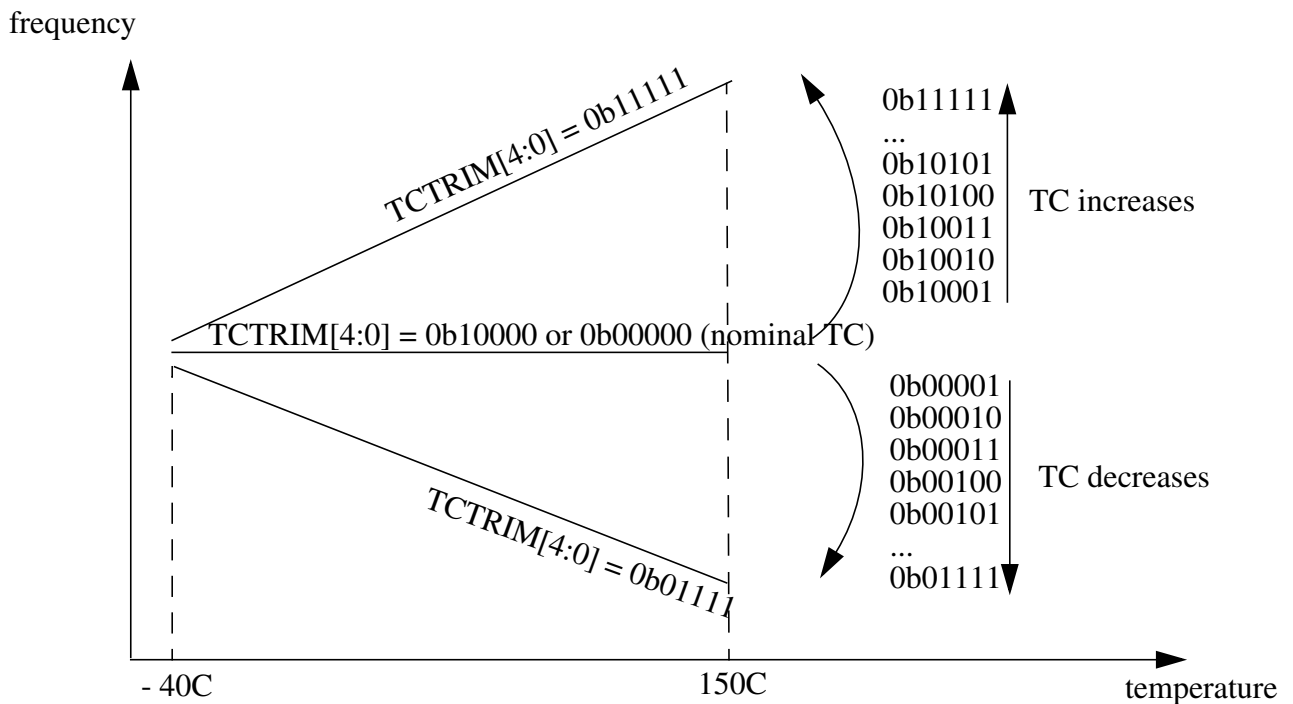

Figure 10-26. Influence of TCTRIM[4:0] on the Temperature Coefficient
15-11 TCTRIM[4:0]	IRC1M temperature coefficient Trim Bits Trim bits for the Temperature Coefficient (TC) of the IRC1M frequency. Figure 10-26 shows the influence of the bits TCTRIM[4:0] on the relationship between frequency and temperature. Figure 10-26 shows an approximate TC variation, relative to the nominal TC of the IRC1M (i.e. for TCTRIM[4:0]=0b00000 or 0b10000).